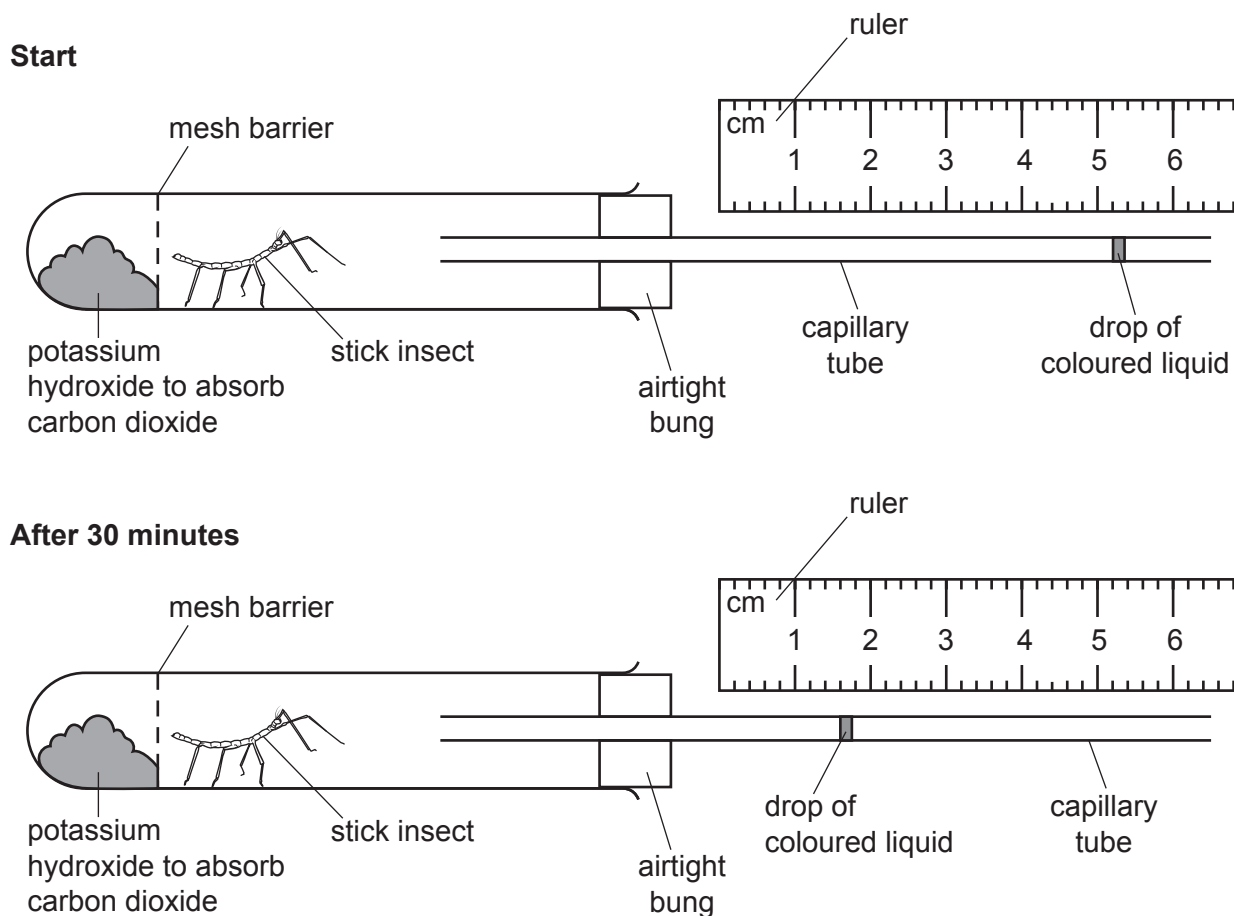

Fig. 2.4
- (b) The rate of respiration in a stick insect can be measured using a simple respirometer, as shown in Fig. 2.4.
- (i) Record the position in mm of the drop of coloured liquid in the capillary tube shown in Fig. 2.4 at the **start** and **after 30 minutes**.